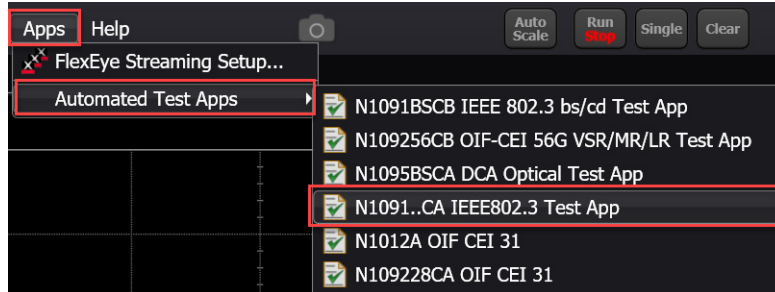
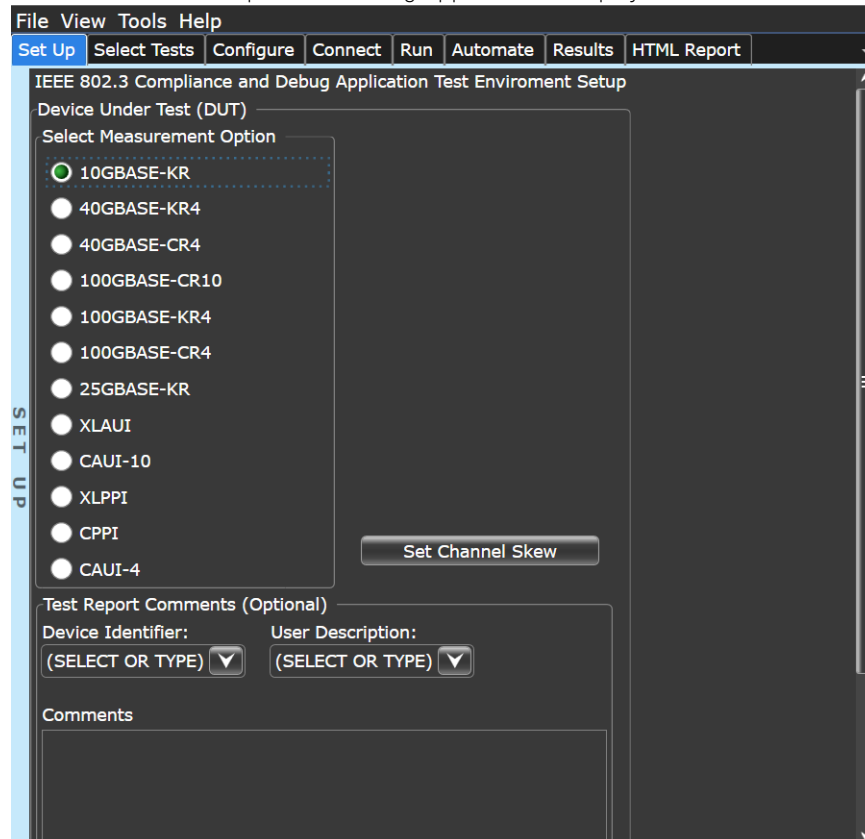

Figure 5 Starting the IEEE 802.3 NRZ Compliance Test Application
Figure 6 The IEEE 802.3 Compliance Test Application's default window
Figure 5 shows the procedure to launch the N1091..CA Series IEEE 802.3 NRZ Compliance & Debug Application and Figure 6 shows the N1091..CA Series IEEE 802.3 NRZ Compliance & Debug Application default window. The tabs in the main pane show the steps you take in running the automated tests:
- 1 In the **Set Up** tab (shown in Figure 6), select the **Measurement Option**, configure the **Multi-Lane Test Option** and the associated settings, and whether you want to use a PNA/ENA/N1055A for performing return loss measurements.